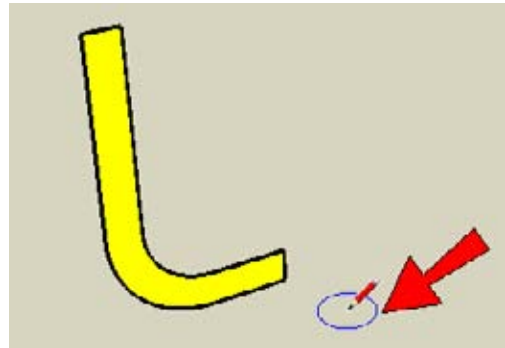

Figure 2-54
4. Activate Circle. Because the circle needs to be flat (red-green plane), keep the cursor away from other objects, so that the preview circle stays blue (Figure 2-54). Press and hold Shift to lock this orientation.